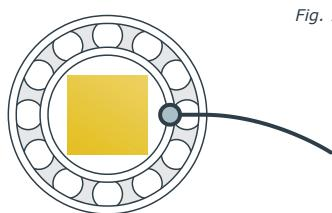
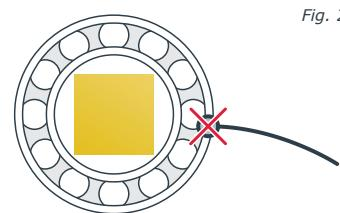

Fig. 1
Fig. 2
- ▶ Place the sensor on the workpiece, close to the bore (see fig. 1). Make sure that the surface used for the sensor is free of grease and/or oil. To avoid overheating the workpiece, never place the sensor on the outer ring (see fig. 2).